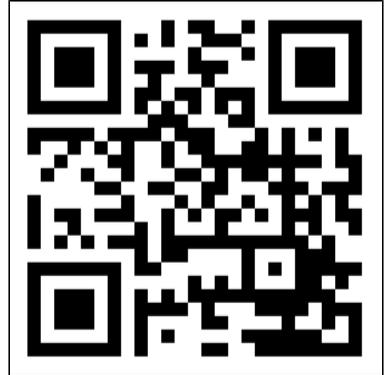

Figure 21.
1. Open the Eurom Smart App manual with the QR code (Figure 21) or go to www.eurom.nl/nl/manuals.